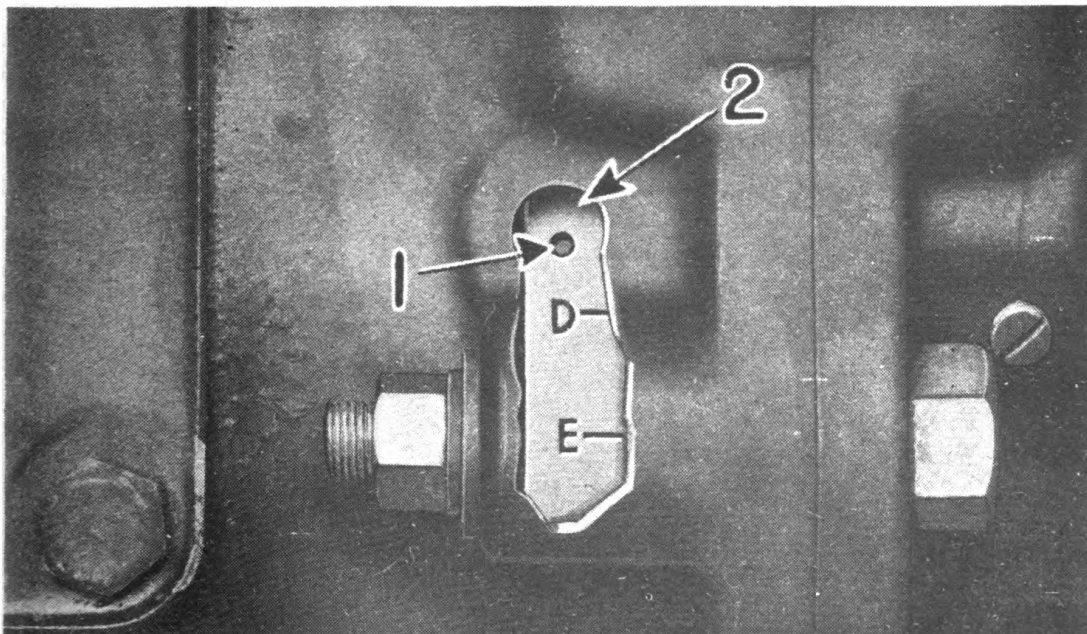

Fig. 34. Inspection Hole and Timing Marks on Flywheel
In checking the timing, turn the engine over slowly with the hand crank until the impulse coupling releases. At this point the  $\frac{3}{16}$  inch hole in the flywheel rim Fig. 34 should be visible in the center of the inspection hole in the right hand
3. Remove the plug from the timing inspection hole on the right side of the clutch housing. Fig. 34.
6. Crank the engine very slowly. Watch through the timing inspection hole Fig. 34 and stop turning immediately when a  $\frac{3}{16}$  inch hole in the flywheel becomes visible and is seen in the center of the inspection hole. This is the proper position for timing the magneto.